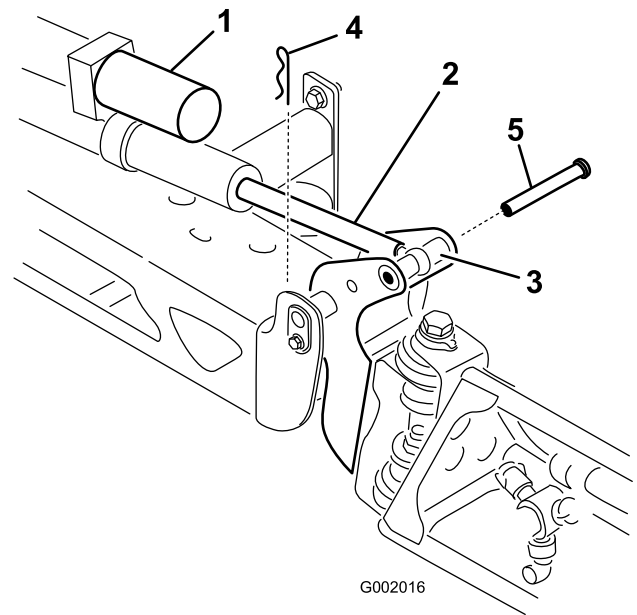

Figure 49
2. Remove the cotter pin from the pivot pin (Figure 49).
3. Lift up on the boom and remove the pin (Figure 49). Slowly lower the boom to the hardstop.
6. Lift up on the boom to align the pivot with the actuator rod. While holding the boom, insert the pin through both boom pivot and actuator rod (Figure 49).